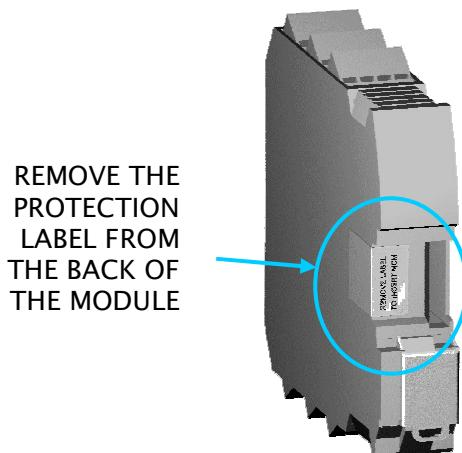

Figure 1
- Remove the protection label (Figure 1).